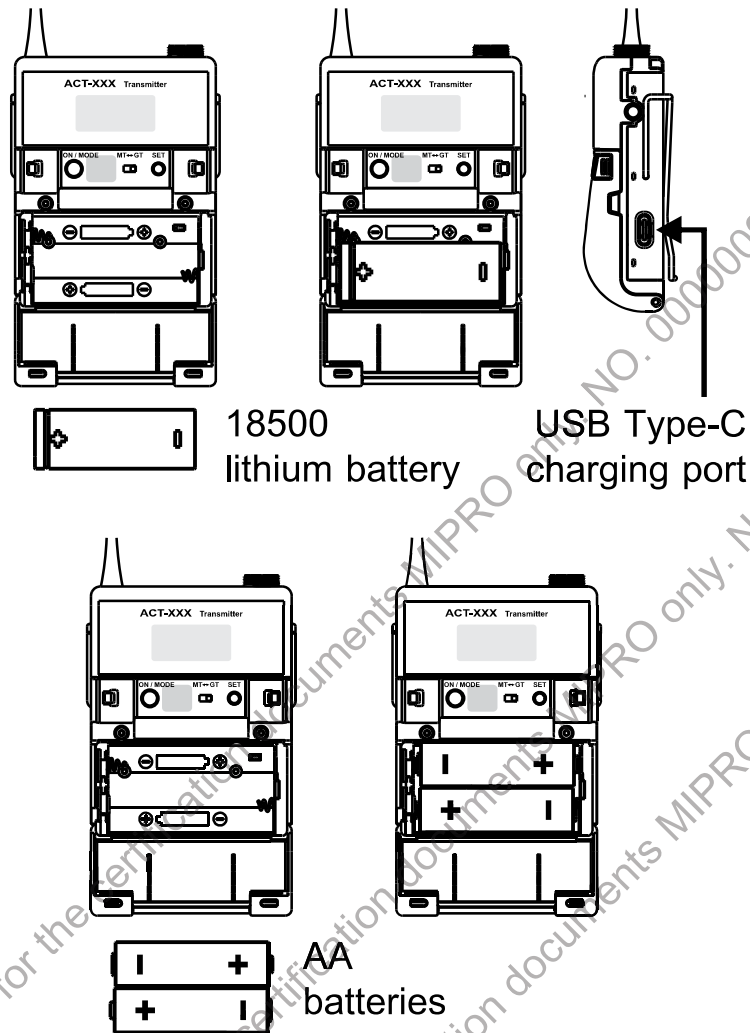

Fig. 4
1. Battery Insertion. Fig. 4
- (A) Press the battery cover side hooks ⑬ inward to lift the battery cover.
- (B) Insert one 18500 lithium battery or two AA batteries.
- (C) 18500 lithium battery insertion: + pole faces toward left.
- (D) AA batteries insertion: insert one into the lower holder with + pole toward left, and then insert another into the upper holder with – pole toward left.